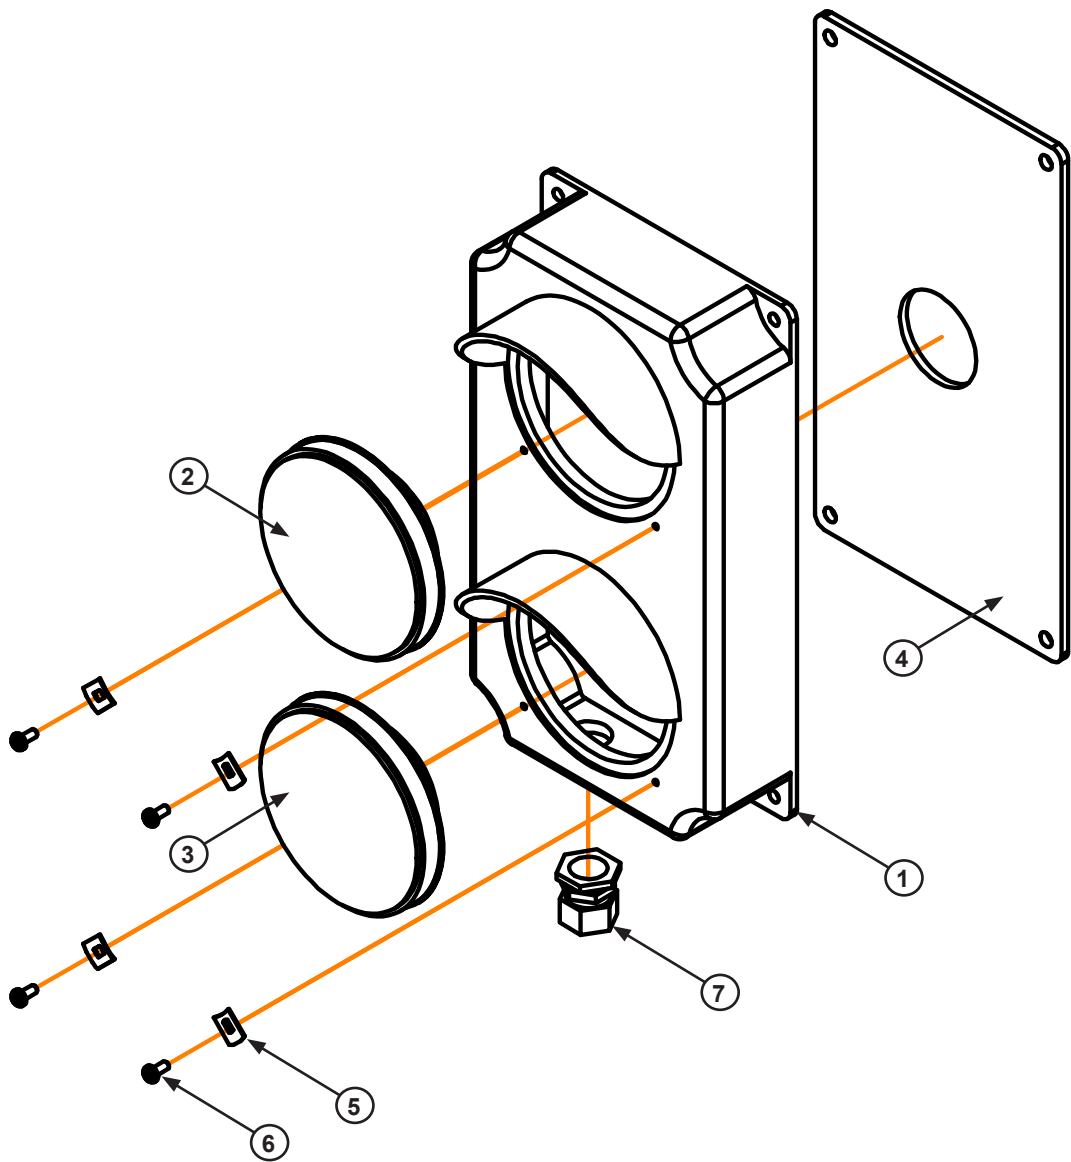

**Figure 52**
Whenever maintenance is to be performed under the dock leveler platform, support the platform with maintenance prop (C). Position the maintenance prop behind front header plate (D) while staying clear of the lip. The lip will fold down after the platform has rested on the maintenance prop. Lock the maintenance prop in the service (upright) position using an OSHA approved lockout device\* (A) and tag out device\* (B). See Figure 51 and Figure 52.